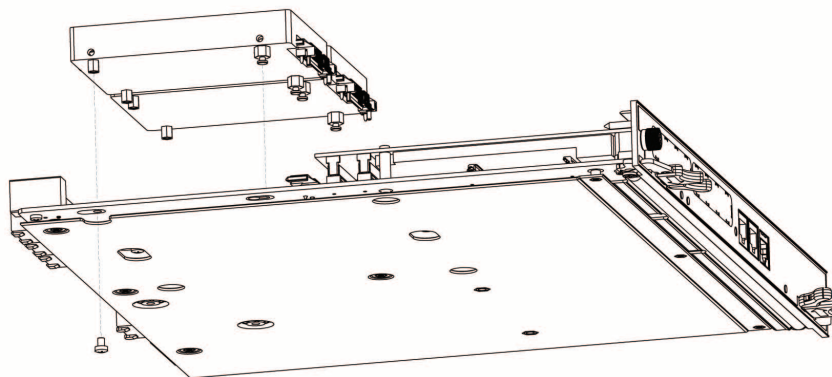

FIGURE 2-10 Installing the Optional Disk Drives
6. Install the disk drive as shown in FIGURE 2-10.